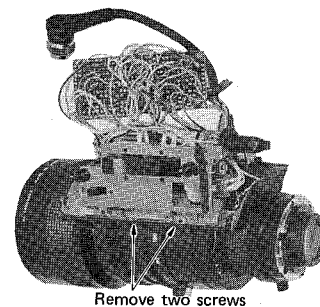
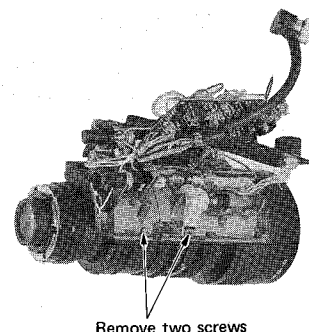

Fig. 11
Fig. 12
- Remove four screws which hold the grip and remove the grip from the camera lens, if necessary. (Fig. 11, Fig. 12)